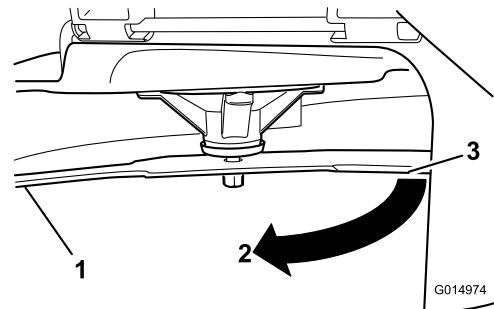

Figure 54
3. Measured distance between blade and the surface (A)
4. Rotate the same blade 180 degrees so that the opposing cutting edge is now in the same position (Figure 54).